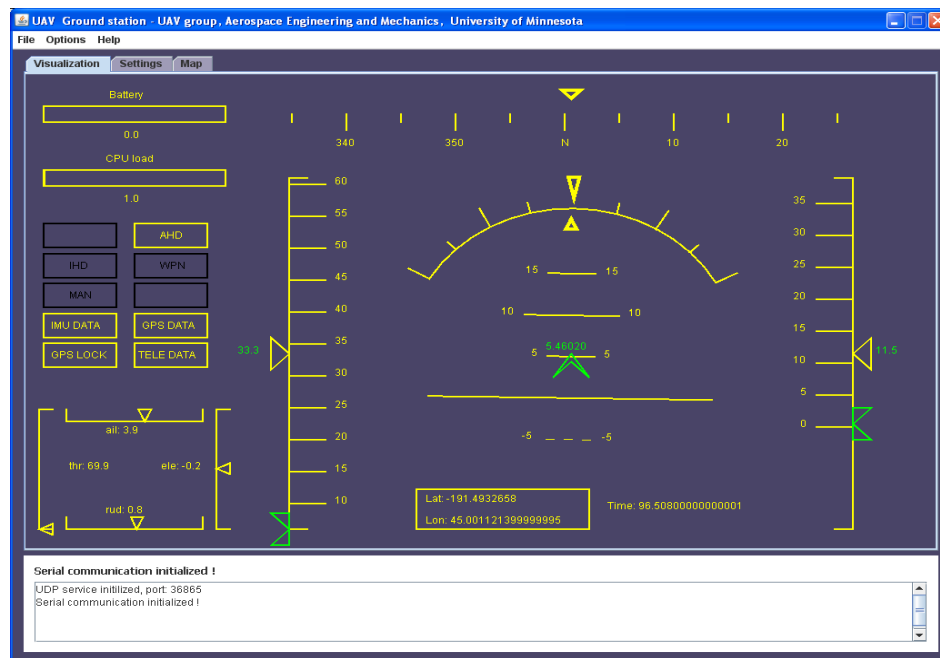

Figure 8. OpenUGS Ground station – Visualization tab
- At this point, the autopilot should take control of the UAV model, and you can see the behavior of the system by looking at the Ground station and FlightGear. The Ground station displays the state solutions from the flight computer while FlightGear displays the simulation solutions. Figure 8 shows the Ground station - visualization tab. Every time the autopilot mode is switched, the Flight computer performs the control sequence programmed in the flight computer.